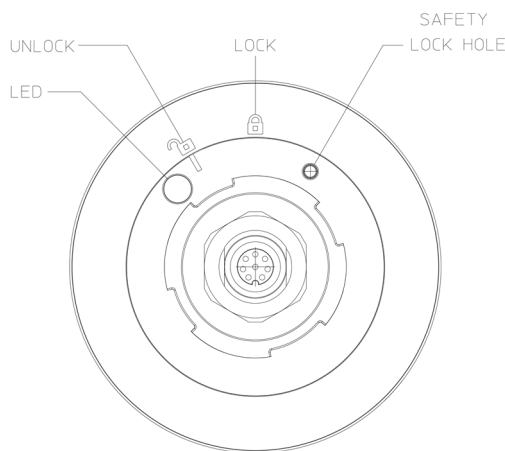

FIGURE 10: POLE MOUNT INSTALLATION STEP 2 (BOTTOM SIDE OF LT-300 GNSS RECEIVER)
Step 2: Please refer to *NMEA 0183 Baud rate* on page 26 for details on NMEA 0183 baud rate settings and *LED Color Description* on page 29 for LED description. Figure 10 is illustrating the bottom side of the LT-300 GNSS Receiver; highlighting the 2-color LED, the locking symbols, and the safety lock hole.